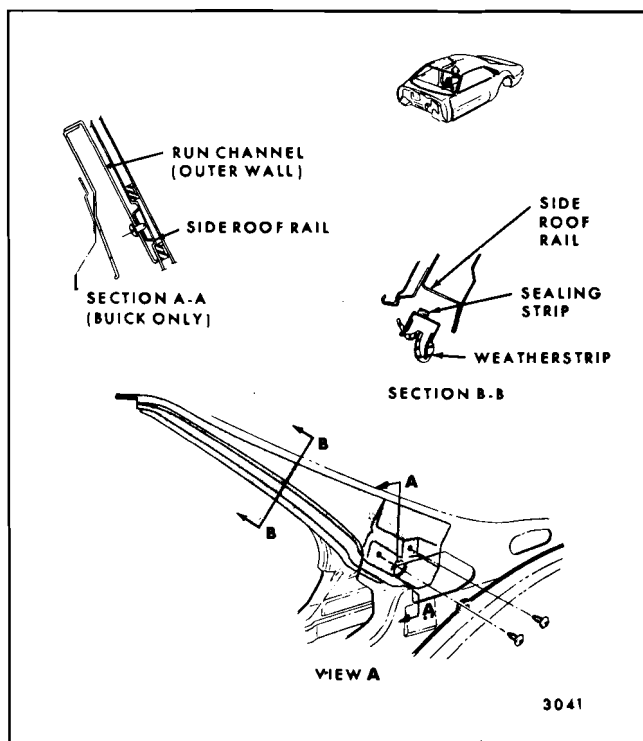

Fig. 6-11—Rear Quarter Glass Run Channel (Above Belt) "E-87" Styles
3. Remove screw(s) securing side roof rail weatherstrip (rear section) to side roof rail (Fig. 6-11), and rear quarter panel.
discard saturated polyurethane foam sealing strip from side roof rail weatherstrip retainer and/or side roof rail (Sec. 'B-B', Fig. 6-11).